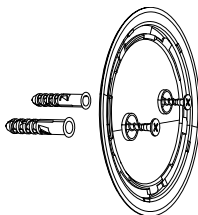

Fig. 5
- 8) Mount the cover on a wall (Fig. 5).